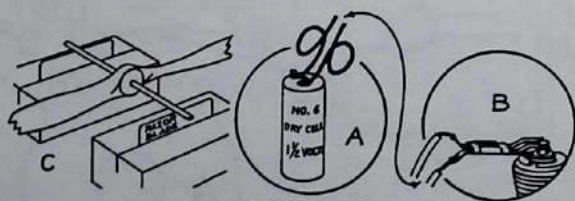

FIG. 2
4. Procure a 1½ volt dry cell battery, # 6 or equivalent, and connect it with 2 flexible insulated wires to a glow plug clip as shown in the diagram A & B-Fig. 2. Do not use a stronger battery. If you do the plug will burn out. The connections should be soldered to insure good contact and taped to prevent bare ends of wire from getting together and "shorting" the battery. Be sure the battery is a good one. Your dealer sells batteries, wire, and glow plug clips.
5. Balance and trim the propeller. This is very essential for good performance. Sand off any bead of plastic along edges of blades. Fit a drill or shaft through the hole and rest the shaft on razor blades set in wooden blocks as shown in C-Fig. 2. Sand the heavy blade until the propeller will balance in a horizontal position. Care must be exercised to do the sanding without spoiling the airfoil characteristics.
3. Connect the battery by snapping the clip on the glow plug, B-Fig. 2.